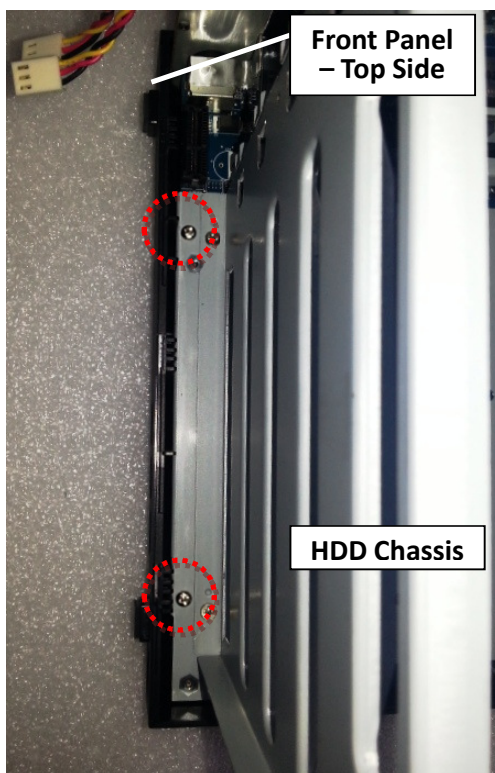
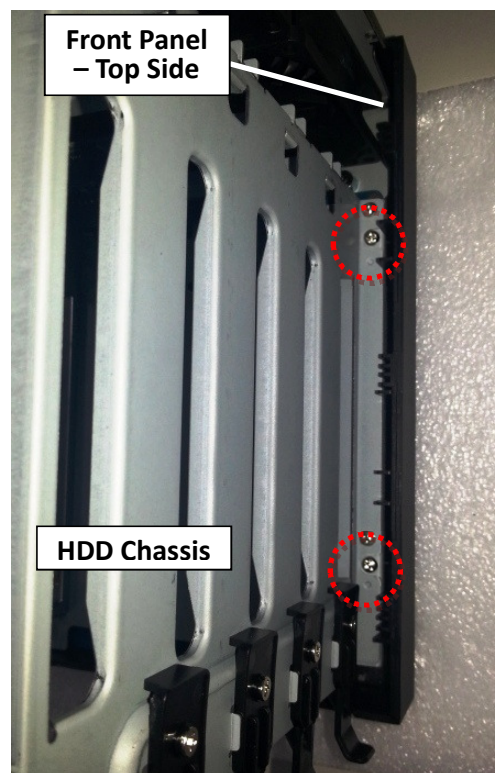

Fig. 29 – Right Side
Fig. 30 – Left Side
2.2.4 Then fix the four (4) screws on the enclosure frame (Marked by the red circles) to secure the HDD chassis. (Fig. 29 and Fig. 30)